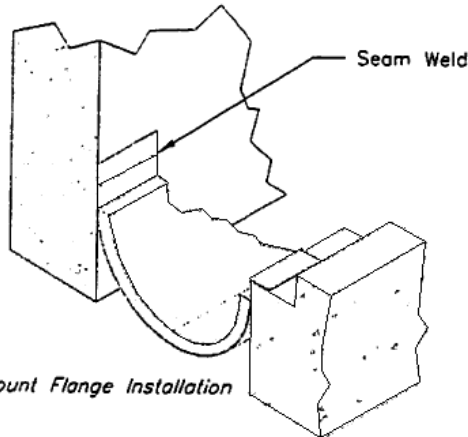
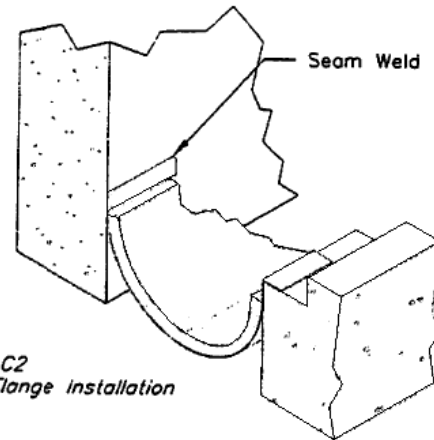

Fig. B2
Fig. C2
1. After completing material preparation described on page 1, place the fire barrier in the expansion joint. The foil flanges can be folded along the seam weld line onto the exposed face of the floor slab. The foil flange can be run up the wall on the other side of the joint. (Fig. B2) With the Low Profile galvanized flange configuration on the wall side, the foil flange can be folded over itself before the galvanized flange is fastened into place. (Fig. C2)